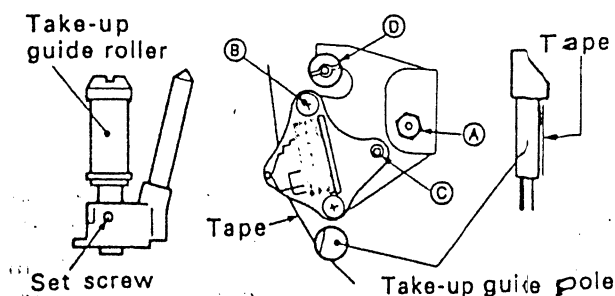

Fig.20 Take-up guide pole
- If the tape separates from the guide or wrinkling occurs at the take-up guide pole, adjust by turning screw © of the Audio/CTL Head as shown in Fig.20.
- If the tape separates from the take-up guide pole or wrinkling occurs, screw ③ (Fig.20) has been turned excessively with respect to nut ① and screw ⑥ causing the Audio/CTL Head to incline forward or backward. Use care to adjust screws ⑥ and ⑦, and nut ① evenly and observe that small wrinkles are not produced at the take-up guide pole.
- g) Loosen tracking adjustment nut ① (Fig.20) and slide the Audio/CLT Head assembly fully to the direction of the take-up guide pole.
- i) Set the Audio/CTL Head assembly to the position where first maximum FM level is obtained. Put screw locking glue on nut ① (Fig.20).